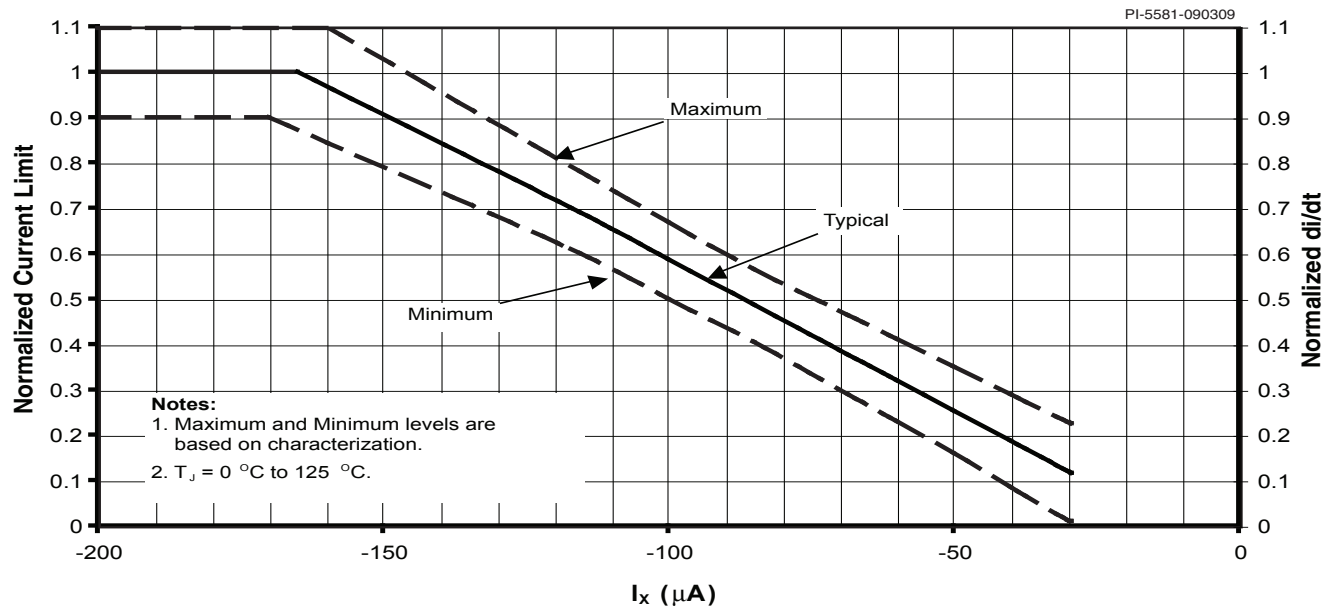

Figure 36. Normalized Current Limit vs. X Pin Current.
- D. For externally adjusted current limit values, please refer to Figures 36 and 37 (Current Limit vs. External Current Limit Resistance) in the Typical Performance Characteristics section. The tolerance specified is only valid at full current limit.